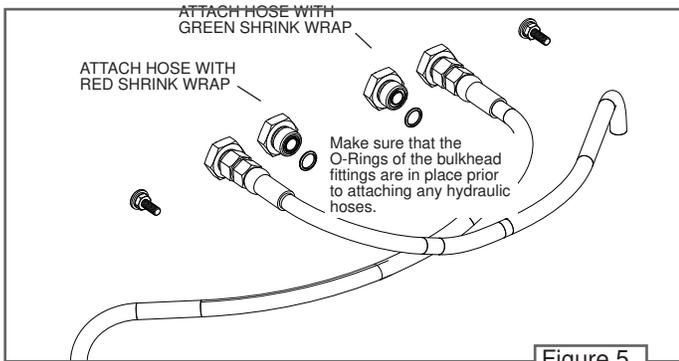

Figure 5.
5. Make sure that the O-rings of the bulkhead fittings are properly seated. Secure the two swim machine hydraulic hoses to their respective bulkhead fittings. The hose with red shrink wrap will be secured to the left center bulkhead. The hose with the green shrink wrap will be attached to the right center bulkhead. There will be a color coded sticker on top of the swim machine housing that will aid in orienting the hoses. Thread the fittings in place by hand until they are just tight. Secure the Bulkhead Fitting with a 1 1/8 (29mm) wrench then tighten the Hydraulic Hose Fitting with a 15/16 (24mm) wrench 1/2-3/4 (19mm - 29mm) flats. **Figure 5.**